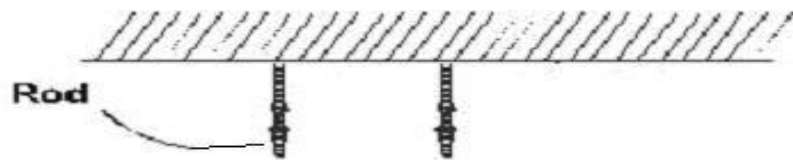
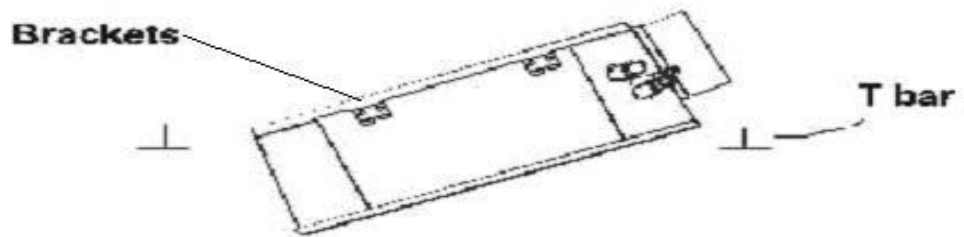
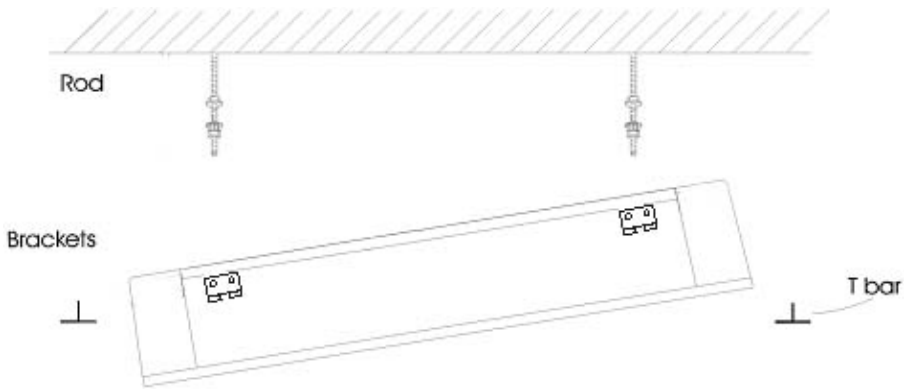
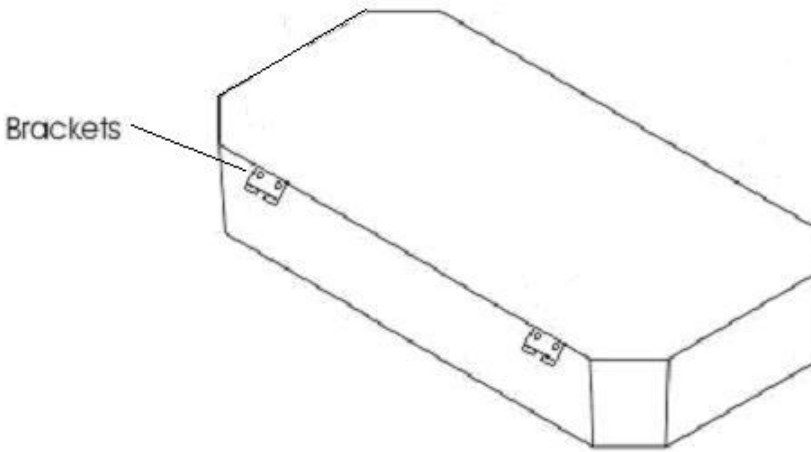

Fig.10
Fig.11
Fig. 13
Fig. 14
- Incline unit (Fig.10, Fig.11, Fig.13, Fig.14) and insert it into the false ceiling. Insert the rods into the bracket slot.